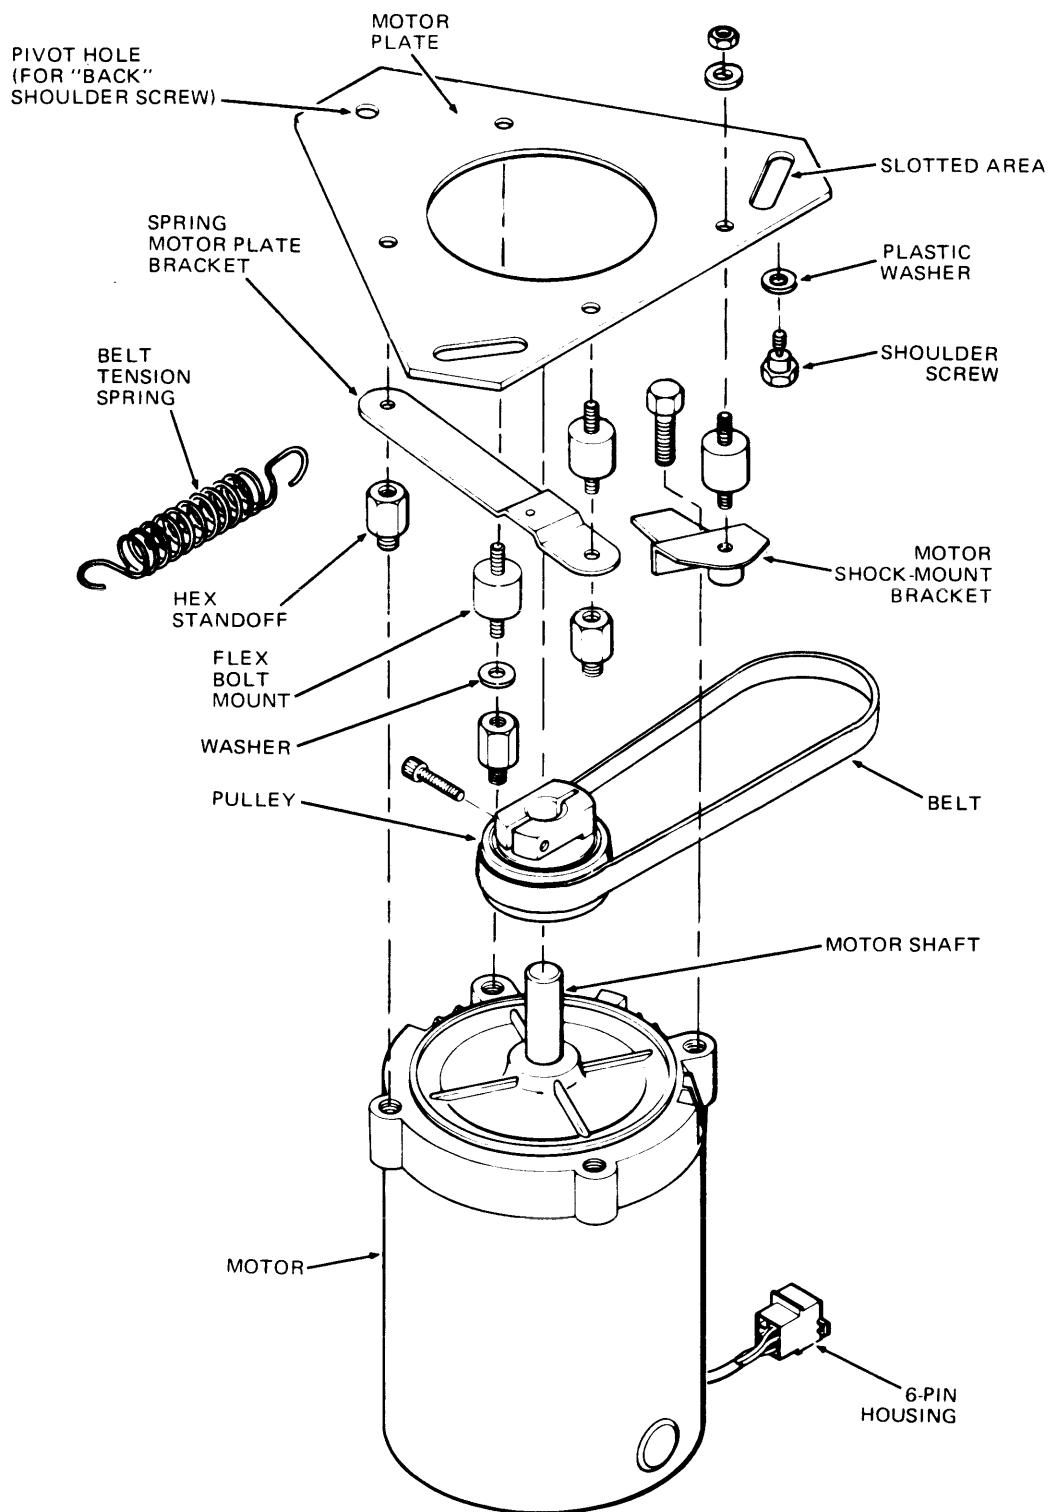

FIGURE 5-13. DRIVE MOTOR AND MOUNT ASSEMBLY
4. Break the adhesive bond holding the three shoulder screws (Figure 5-13) and loosen the screws.
Be certain the spring bracket orientation corresponds to Figure 5-13.
2. Pivot the drive motor on its back shoulder bolt (Figure 5-13); this will allow enough slack in the belt for it to drop off the pulleys.